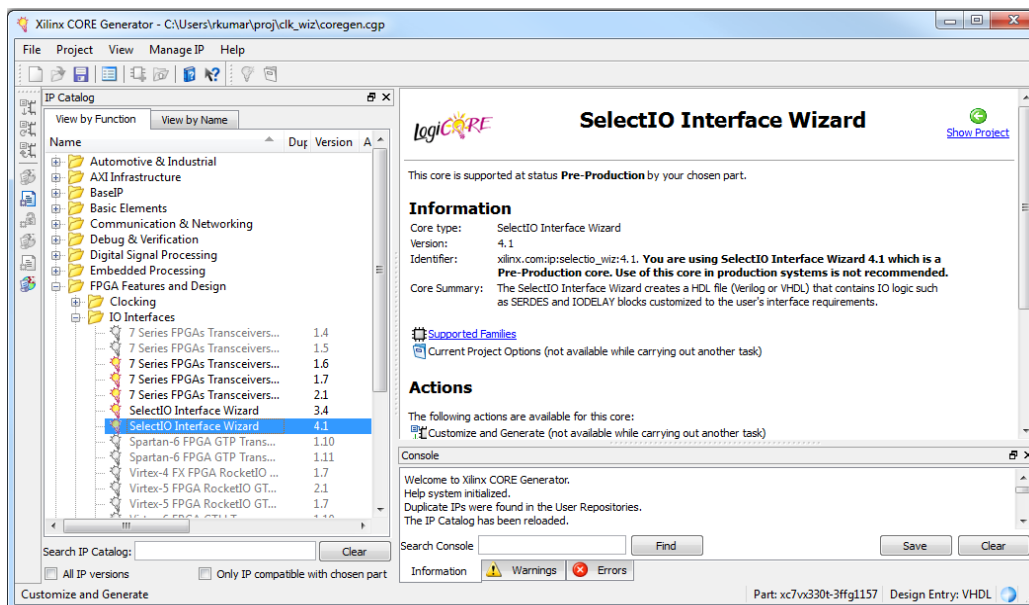

Figure 2-1: CORE Generator Tool Window
2. The IP core functional categories appear at the left side of the window, as shown in Figure 2-1.